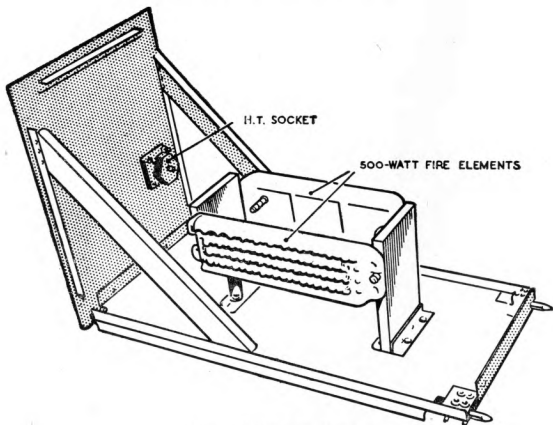

Fig. 9. Resistance unit Type 289
**Resistance unit Type 289 (fig. 9)**